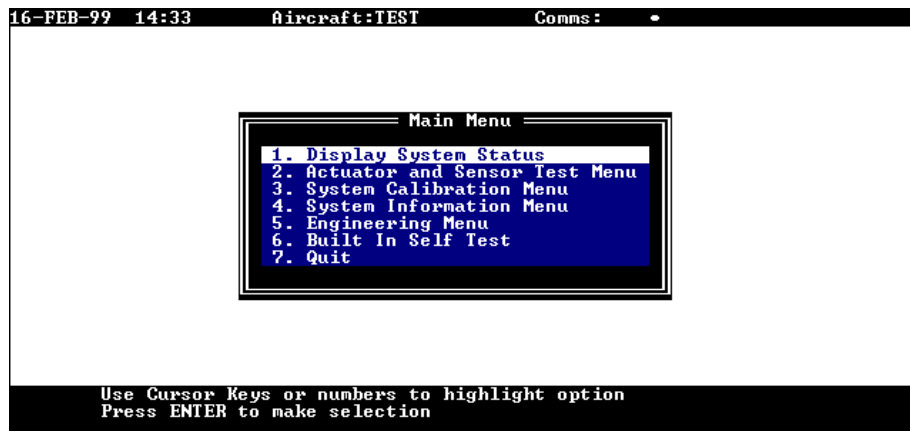

Figure 3.12 - Main Menu Screen.
- (10) The MT will read the Configuration Parameters stored in the ANCU and compare them with the data stored in the appropriate file in its database. If the Configuration Parameters are good the 'Main Menu' will be shown on the MT display (Ref. Figure 3.12).
- (11) If the configuration parameters are not good or not correct for the aircraft type then the MT will load the appropriate configuration parameters into the ANCU. When complete, the MT will reset the ANCU. After the ANCU resets the message:
will be shown and the MT will read the configuration parameters back and compare them with the file in its database to verify that they have been correctly loaded. When the Configuration Parameters are validated the 'Main Menu' will be shown on the MT display (Ref. Figure 3.12).